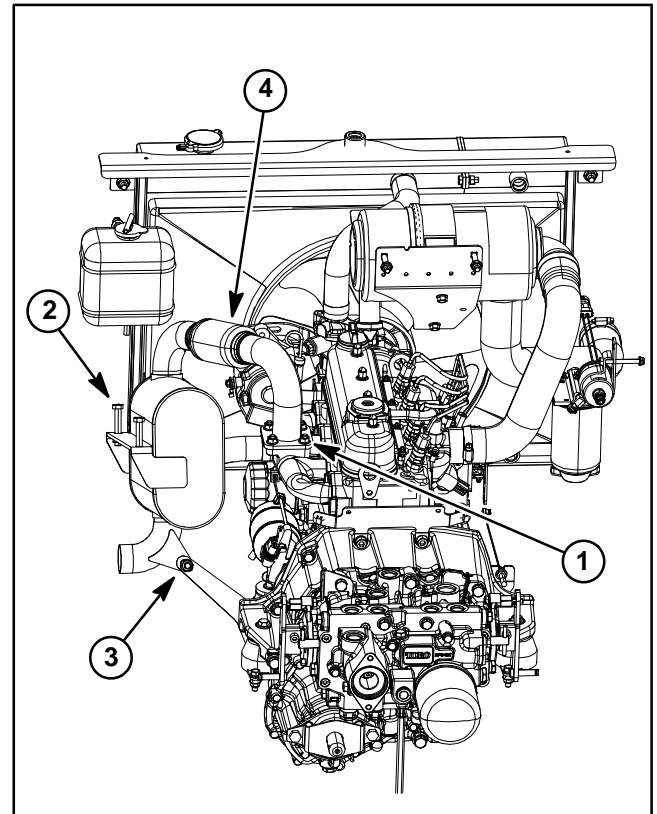

Figure 4
4. Remove flange head screw (item 7) and flange nut that secure the muffler to the muffler support (item 6).
5. Remove four (4) flange nuts from the exhaust manifold studs.
6. Remove two (2) cap screws (item 4) and flange nuts that secure the muffler bracket to the frame (Fig. 4).
2. Position muffler flange to the engine exhaust manifold and loosely install four (4) flange nuts.
4. Tighten four (4) flange nuts to secure muffler flange to exhaust manifold. Torque flange nuts **17 to 21 ft-lb (24 to 28 N-m)**.
5. Secure muffler to the frame by tightening two (2) cap screws (item 4) and flange nuts making sure that muffler flex joint does not deform (Fig. 4). Torque cap screws from **27 to 33 ft-lb (37 to 44 N-m)**. If flex joint does deform during tightening, loosen all fasteners and return to step 3 above.
6. Install and tighten flange head screw (item 7) and flange nut that secure the muffler to the muffler support (item 6).